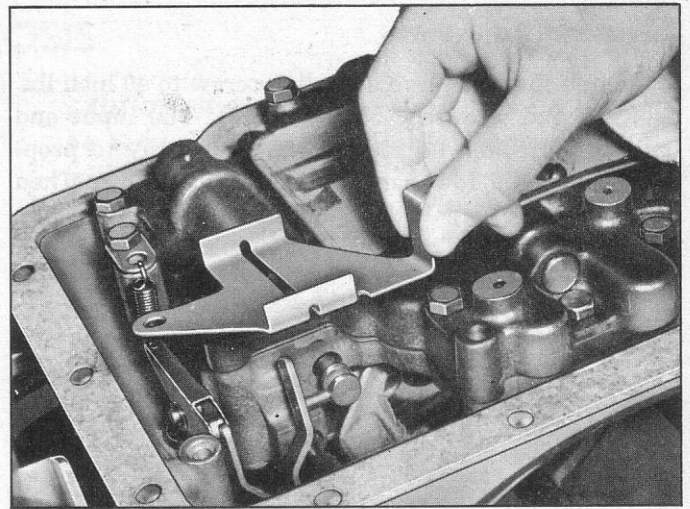

Fig. 42—Installing Detent Guide Plate
31. Install the guide plate (fig. 42) making sure that the inner lever properly picks up the manual valve. Install attaching bolts.